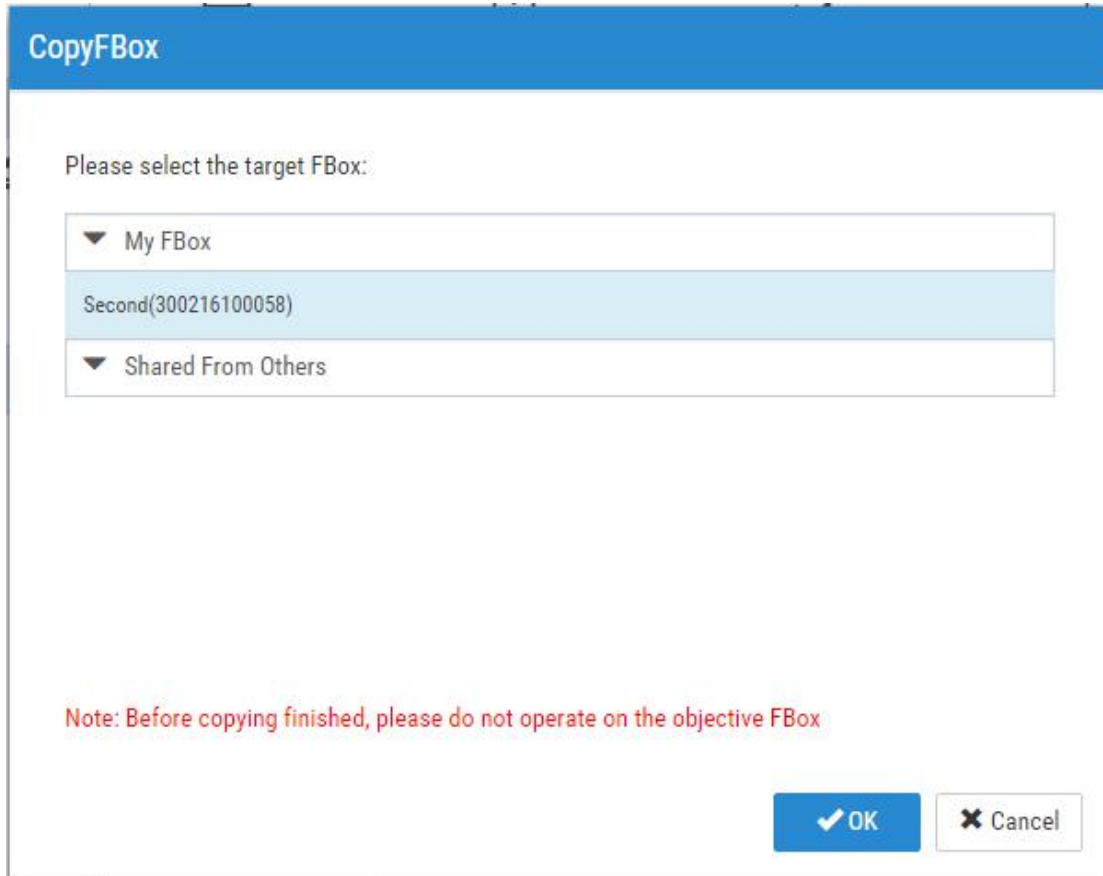

Fig. 4.5-21 The "CopyFBox" dialog
(2) After selecting the "Copy FBox" option, the "CopyFBox" dialog will pop up, as shown in Fig. 4.5-21.